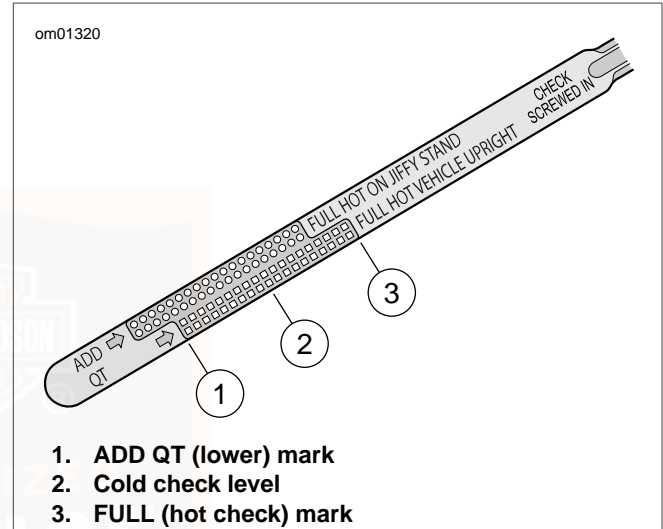

Figure 42. Engine Oil Dipstick
See Figure 42. When checking oil level, use the side of the dipstick marked FULL HOT VEHICLE UPRIGHT.
4. See Figure 42. Remove the dipstick. Using the gauge marked FULL HOT VEHICLE UPRIGHT on the dipstick, verify the oil level. The level should be between the ADD